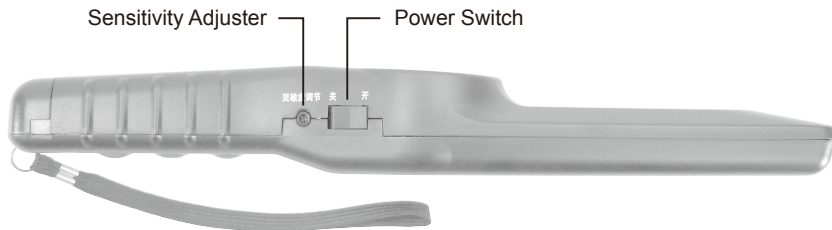

Figure 5
2. Refer to Figure 5, locate the Sensitivity Adjuster.